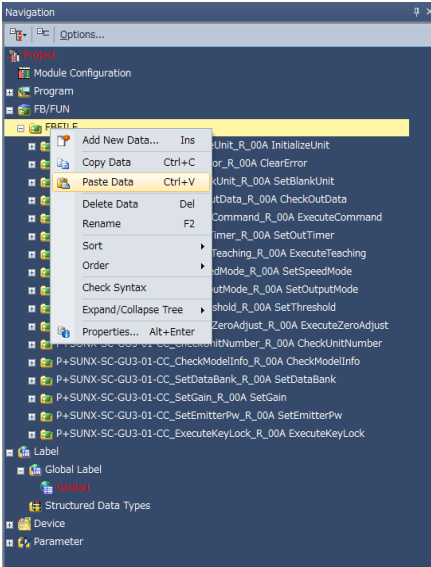

Figure 5.2-2: Pasting the FB
- Select and right-click FBFILE and paste the data. (Figure 5.2-2)